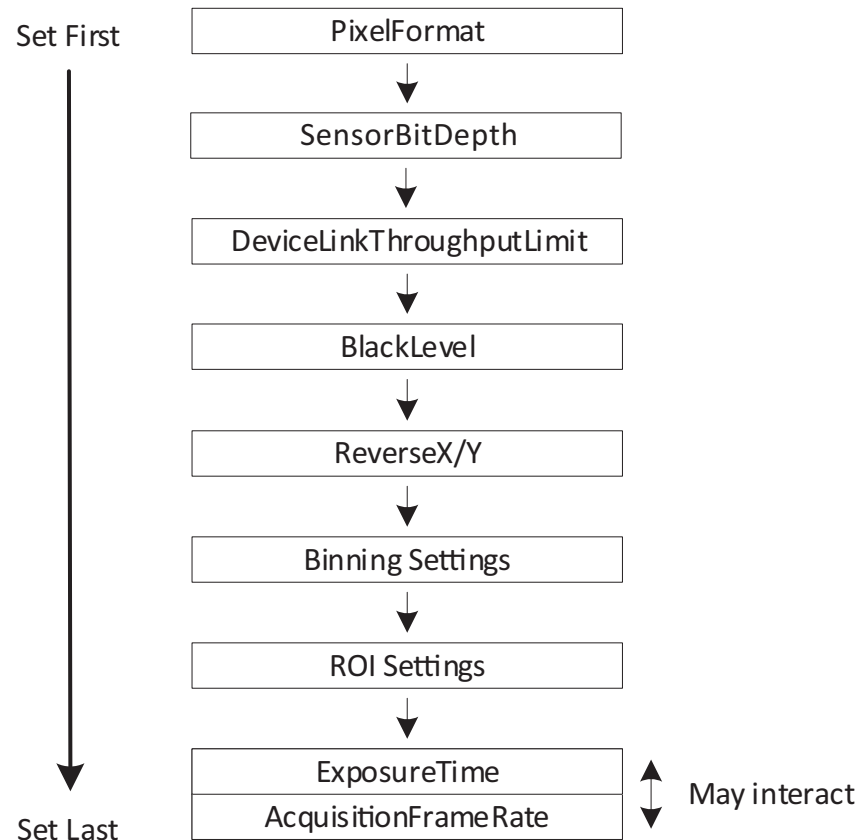

Figure 66: Interdependencies between features
The conversion between time and clock cycles affects control values. Features for pixel format, bandwidth, ROI, exposure time, and triggering are related to each other. Changing values for one feature can change values for another feature. For example, frame rates can be reduced when `PixelFormat` is changed subsequently. Figure 66 shows the interdependencies.
- To avoid readjustments, apply settings in the order shown in Figure 66.